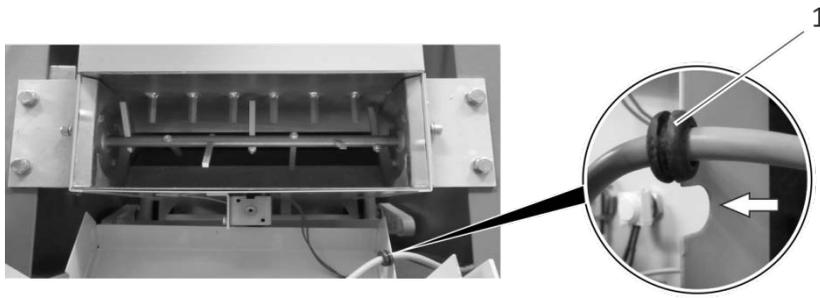

Figure 22: Rubber bush at the filling container
- ⇒ Insert the rubber bush on the casing through the recess; refer to **figure 22**.